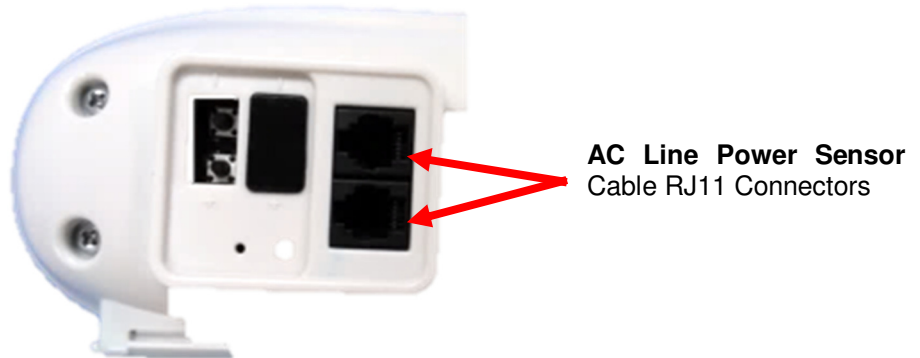

Figure 3. Connecting the **AC Line Power Sensor** to the **Bed Beacon** via the RJ11 connector
1. Connect the **AC Line Power Sensor** to the **Bed Beacon** via any RJ11 jack as shown in Figure 3.